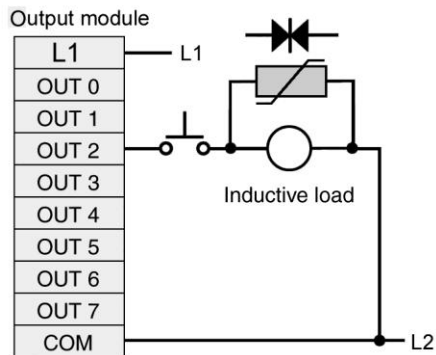

Figure 13-2 Suppression circuit for question 20.
20. The suppression circuit of Figure 13-2 20. _____